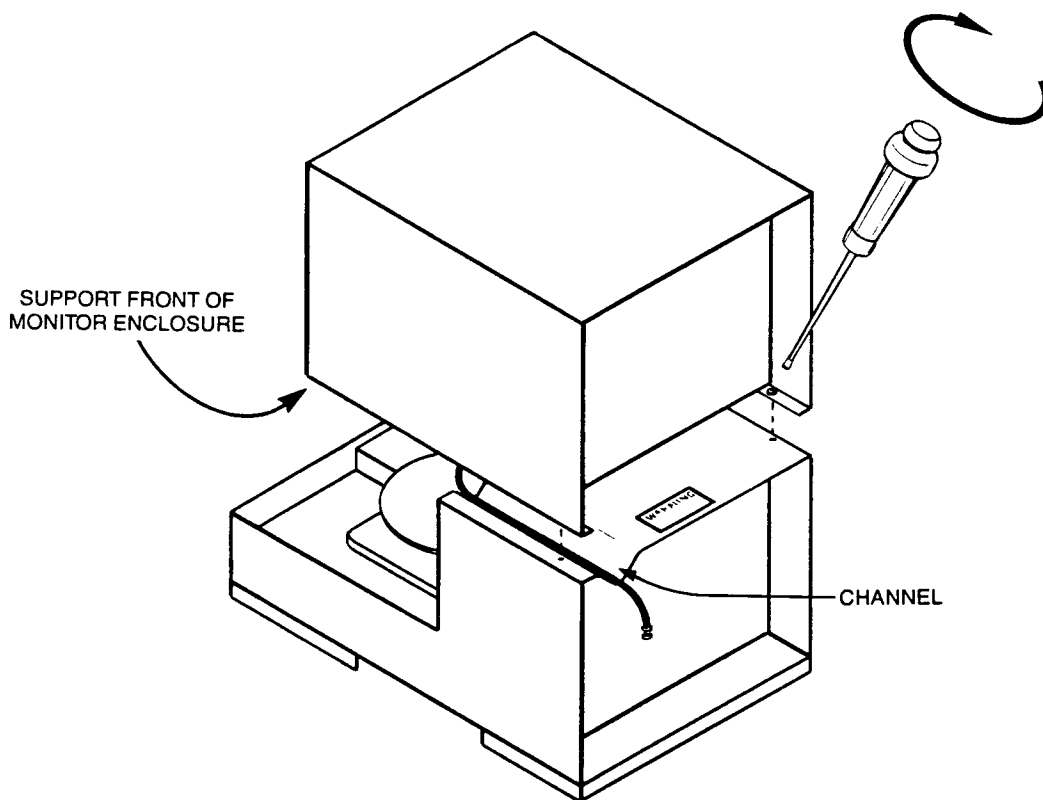

Figure 1-11. Video Monitor/Scan Head Assembly
1. Position the monitor as shown in Figure 1-11.